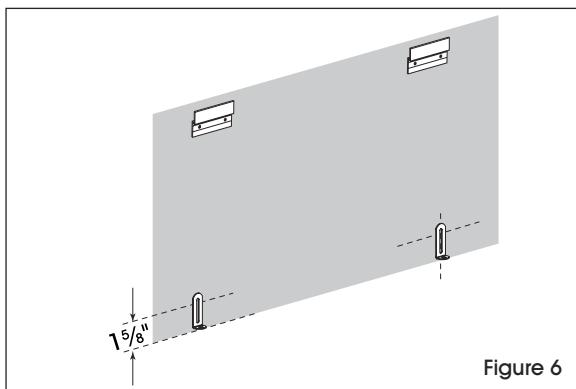

Figure 6
1. With board hanging on top brackets, align L-Brackets with pre-drilled holes (located on bottom of frame) and mark position. (See Figure 6)